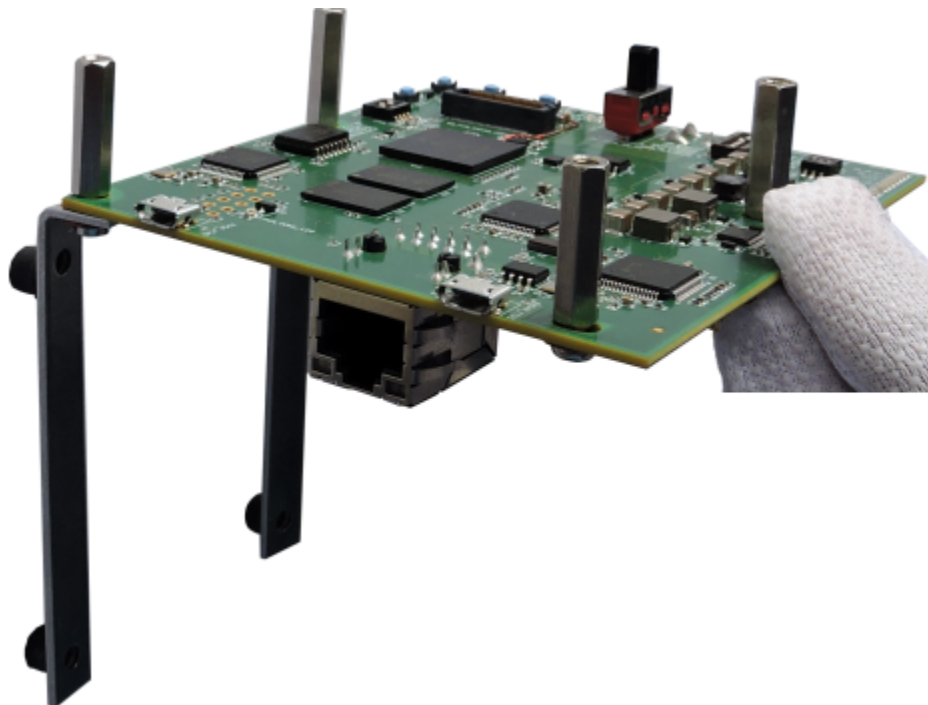

Figure 5. Connect Screws and Spacers
2. Connect the DCA1000EVM with screws, spacers, and stands, as shown in Figure 5.